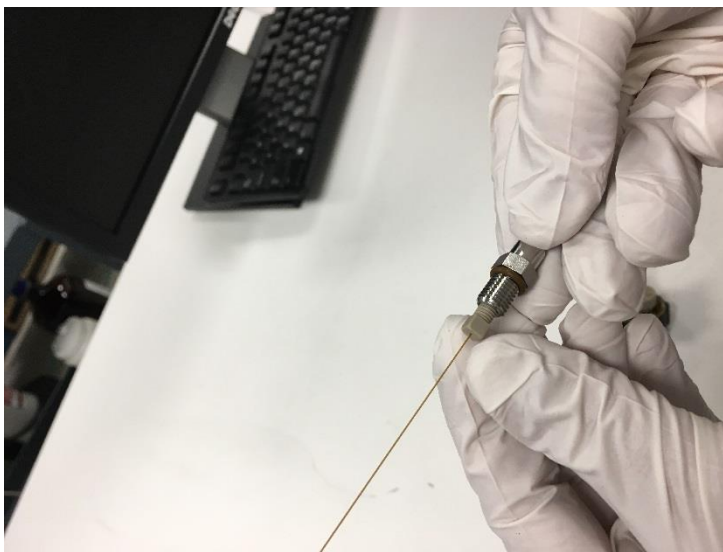

Figure 101: Removing the PEEK fitting
- 11) Use 3/16" wrench to loosen the nut and then unscrew the PEEK fitting. See Figure 101.
- 12) Remove the PEEK fitting. See Figure 101.